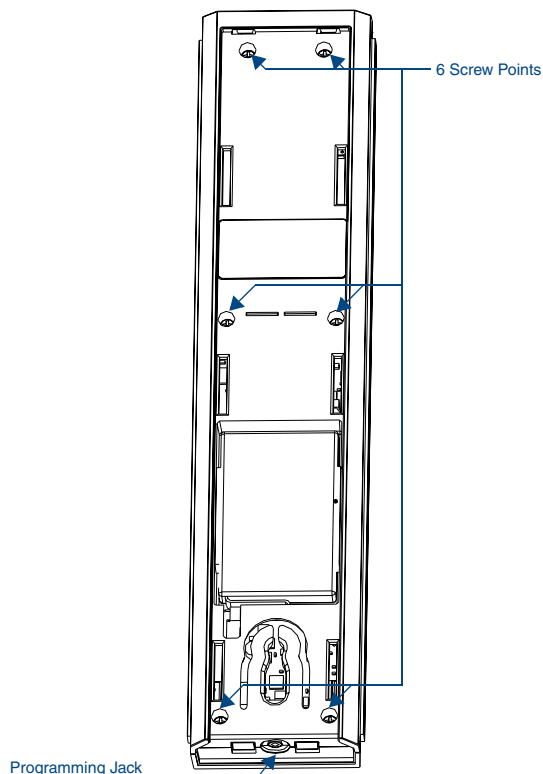

FIG. 3 Internal Mio R-3 Components
3. Unscrew the 6 screw points indicated in FIG. 3.